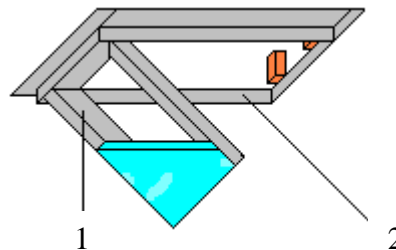

Fig. 1.
1. Cut down a square or rectangle from the gypsum plate, (depending on flat's version); dimensions of the square or rectangle should correspond to the internal dimensions of flap's frame movable part (1 on figure 1); and fasten with screws. Because flap's construction is made of 1,5 mm thick sheet, self-screwing screws of 20mm length are usually the most convenient solution.